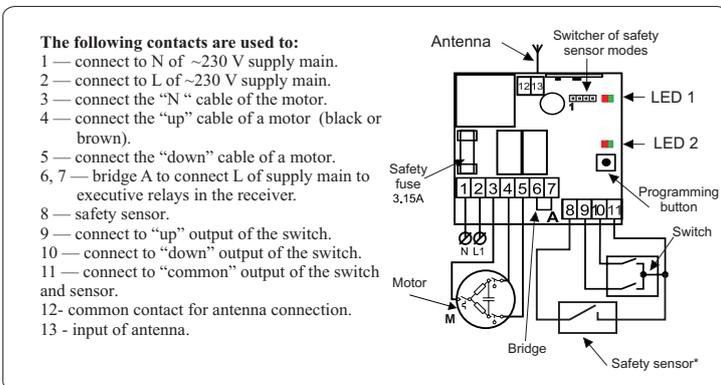

Fig. 1. Connection scheme for Radio 8113 IP
- Connect a switch (see fig. 1).